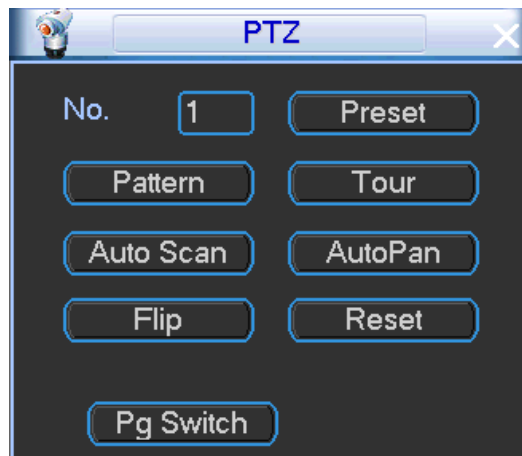
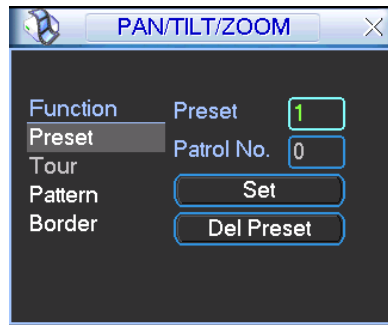

Figure 4-36
Figure 4-37
In Figure 4-32, click page switch button, the interface is shown as in Figure 4-36. Here you can activate the following functions:
- The following setups are usually operated in the Figure 4-33, Figure 4-36 and Figure 4-37 .
In Figure 4-36, click preset button and input preset number. The interface is shown as in Figure
In Figure 4-36, please input preset number in the No. blank, and click preset button.
In Figure 4-36, input patrol (tour) number in the No. blank and click patrol button
In Figure 4-36, input mode value in the No. blank, and click pattern button.
In Figure 4-36, click “Auto Scan” button, the system begins auto scan. Correspondingly, the auto scan button becomes Stop button. Click stop button to terminate scan operation.
In Figure 4-36, click Page switch button, you can see an interface is shown as below. See Figure 4-41. Here you can set auxiliary function. The aux value has relationship with the Aux button of the decoder.